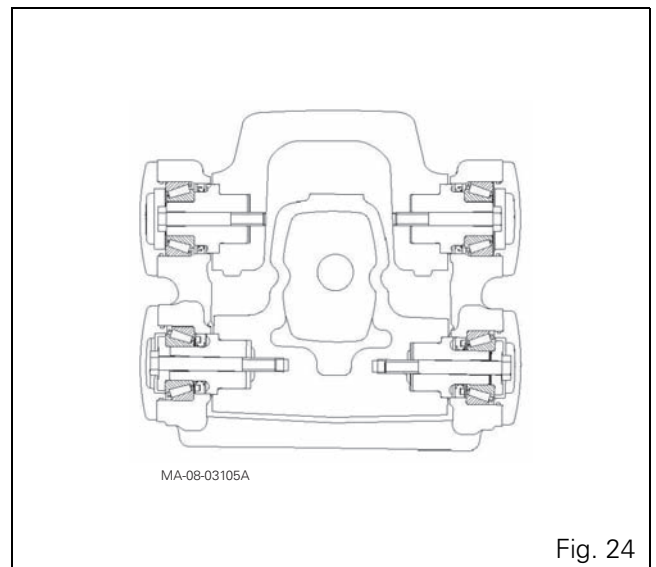

Fig. 24
Check that the bearings are positioned and assembled correctly (see Fig. 24).
**IMPORTANT:** Ensure that the tapered roller bearings are mounted in the correct direction, on the lower pins, the bearings must be inserted with the cup facing inwards (in the arm) and the cone facing outwards (on the pin) (see Fig. 24).